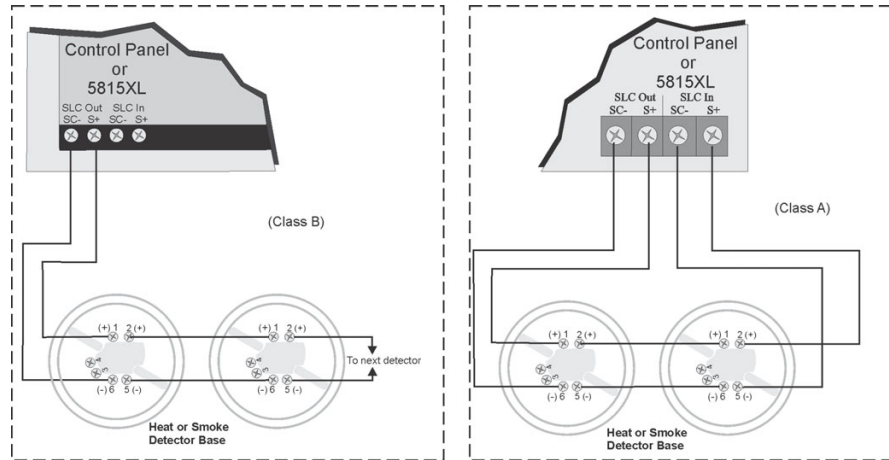

Figure 7.5 Heat or Smoke Detector Connection to the FACP
1. Wire device bases as shown in Figure 7.5.